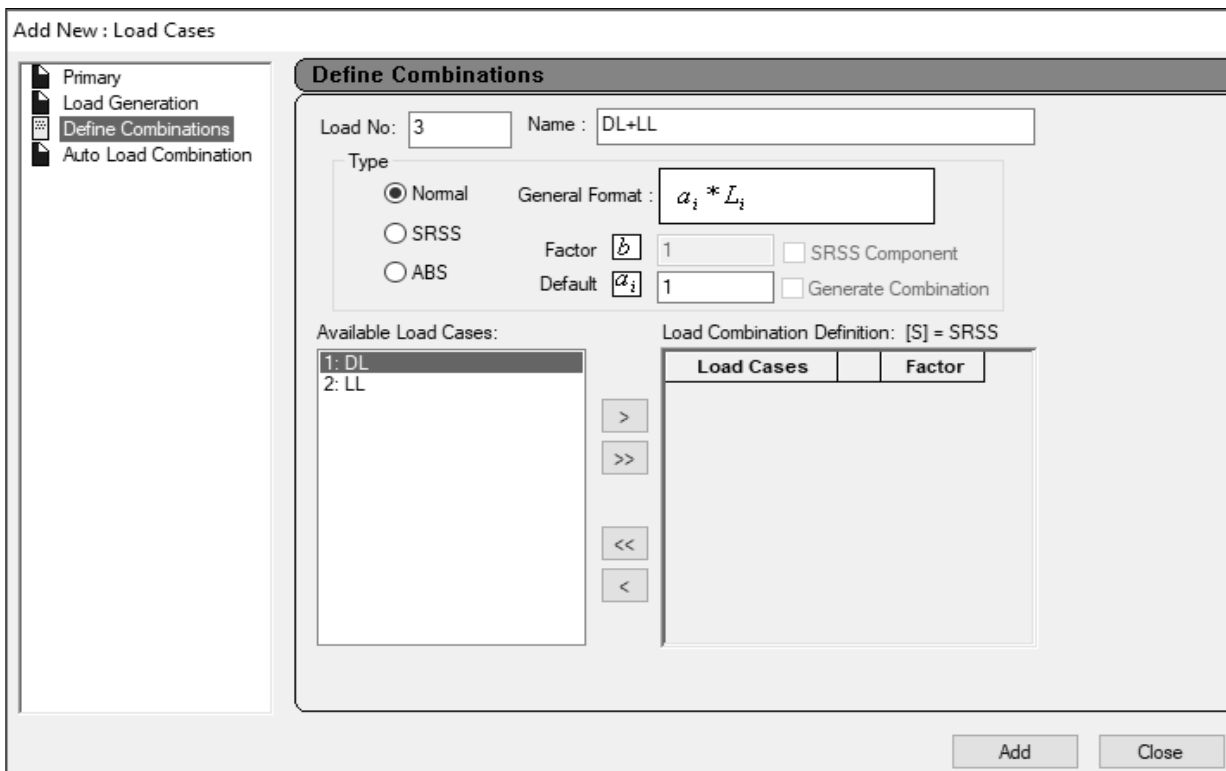

Fig: 4.12
2.5 Load Combination: Load Cases Details → Add → Define Combinations → Name = DL+LL → Default ai = 1, then select DL, LL and click on >> to send right side from left side. (Fig: 4.12)